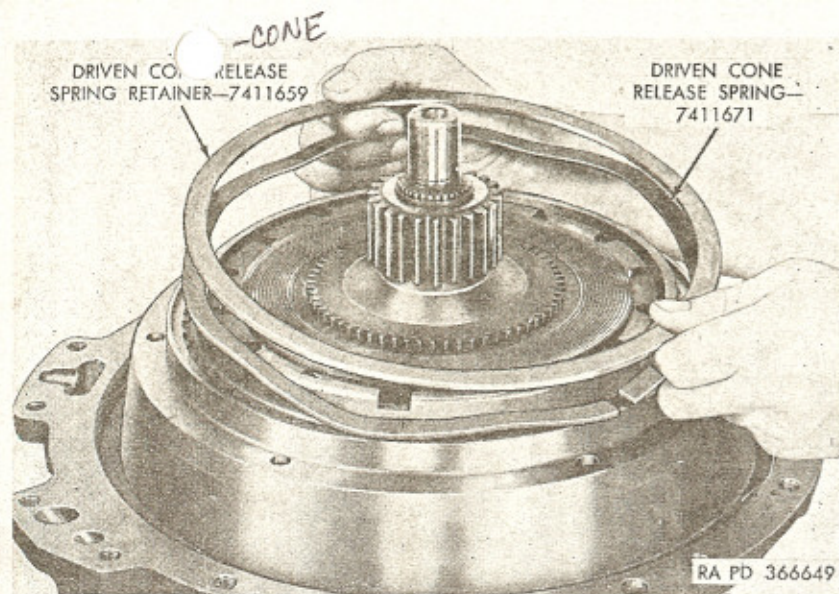

Figure 23. Removing or installing reduction unit driven cone release spring and retainer (303M).
c. Remove reduction unit driven cone release spring and release spring retainer (fig. 23). Remove seven reduction clutch bronze drive plates and six steel driven plates by lifting the plates straight up.